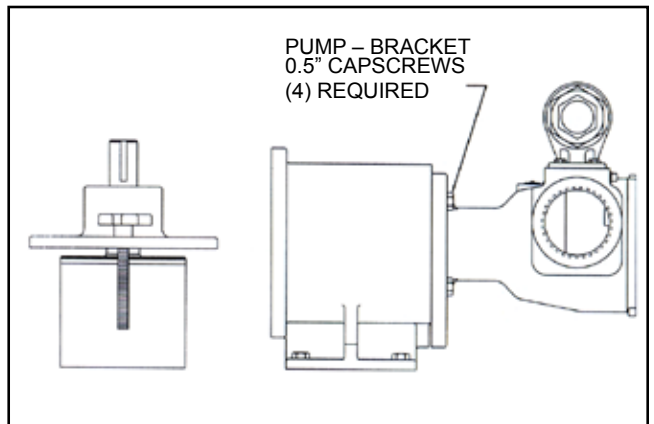

FIGURE 21
Do not place your fingers between the pump mounting flange and the face of the bracket. Using extreme caution, pull the inner magnet away from the outer magnet (see figure 21). If you do not completely pull the pump out it will snap back and could pinch a finger or hand. Once the inner magnet is removed from the bracket be careful setting it down as it will attract any iron or steel object.
3. Support the pump with a hoist and remove the (4) 0.5" capscrews. See Figure 21. Pull the pump out of the bracket; there will be some resistance since the inner magnet assembly will be attracted to the iron bracket. If further disassembly of the bearing carrier is required, refer to page 10. Since there will be some liquid left in the canister, be aware that the liquid may run out when the canister is removed from the pump.